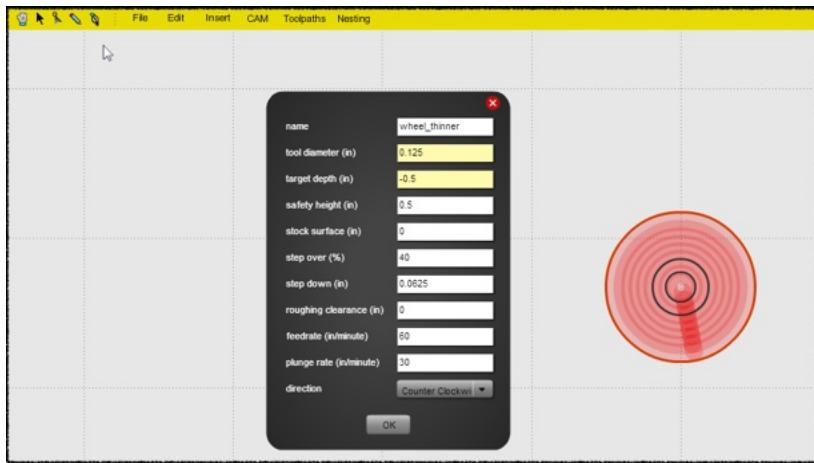

Figure 6-11. Pocket operation to reduce thickness of material
3. As shown in Figure 6-11, set the target depth to 0.5 inches.